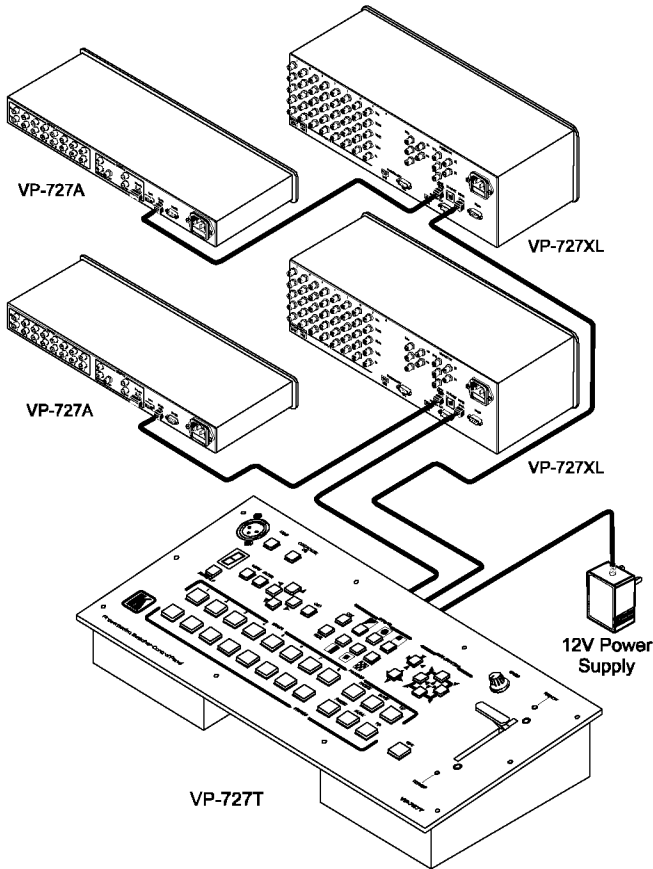
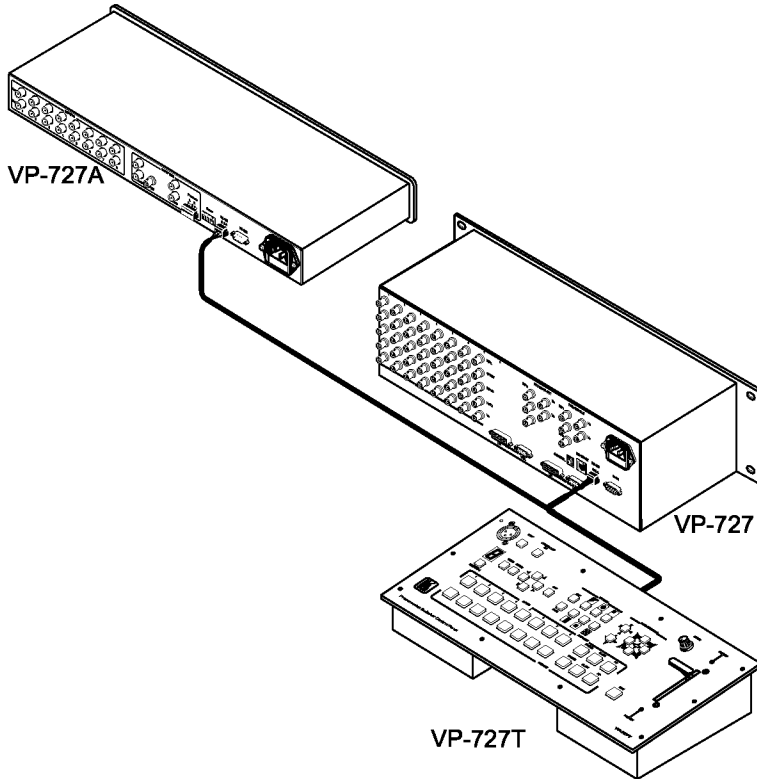

Figure 5: Connecting 2 VP-727A machines to the VP-727T via 2 VP-727xl Machines
Figure 6: Connecting the VP-727A to the VP-727T via the VP-727
- VP-727xl (see Figure 5) or the VP-727 (see Figure 6)
The example in Figure 5 illustrates how to connect two VP-727A machines and two VP-727xl machines to a VP-727T controller.
The example in Figure 6 illustrates how to connect a **VP-727A** and a **VP-727** machine to a **VP-727T** controller.